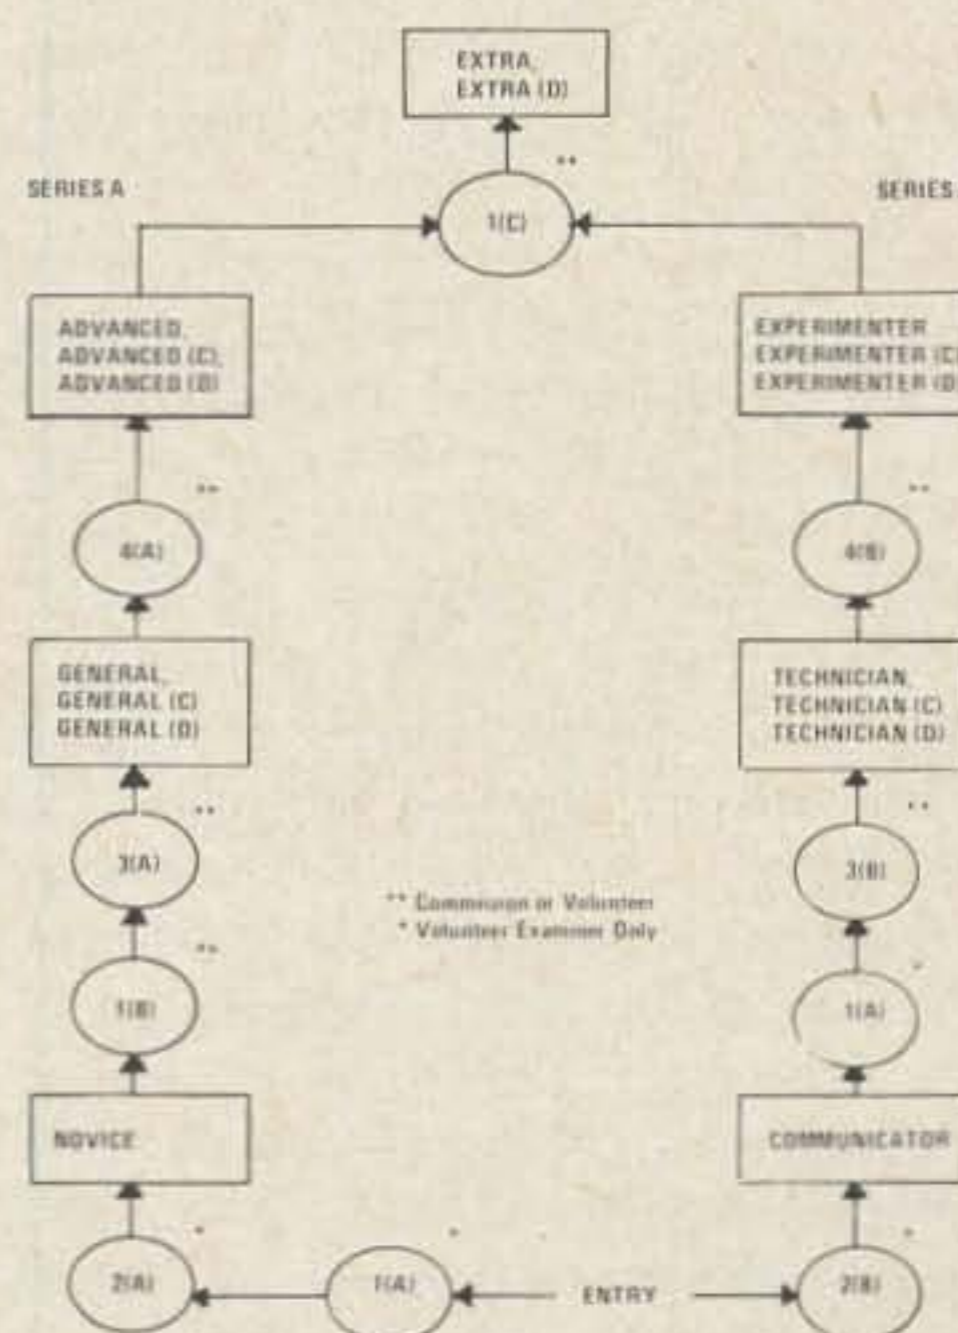

Fig. 3. Proposed revised structure of operator license classes and examination elements.
10. We have examined several possible revised operator license class structures in a search for the best way to incorporate the proposed Communicator Class and the proposed Experimenter Class licenses. As broad objectives, we desire to 1) preclude, or at least minimize, any adverse impact upon presently licensed amateurs, 2) closely relate requirements to privileges for each license class, 3) provide realistic upgrading steps and incentives, 4) provide the opportunity and flexibility for persons interested only in shortwave radio, or only in VHF and above, or interested in both, to obtain a license and pursue their particular interests. As a result, the structure we are proposing is shown in Figure 3, and the specific proposed rule amendments are given in Appendix II. In general, we favor this structure because it seems to more fully reflect our objectives and to satisfy most of the objectives of petitioners. Two series of operator license would be offered, Series A and Series B. Amateurs would be permitted to hold *one* operator license permitting privileges in one or both series. For example, an amateur could hold an operator license authorizing Novice Class privileges in Series A and